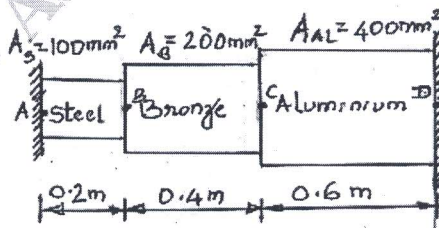

Fig. Q4 (b)
- b. A stepped bar with it's both ends fixed as shown in Fig. Q4 (b) is subjected to an increase in temperature of 50°C . Determine displacements and forces at points A, B, C and D. Take Young's moduli of steel, bronze and aluminium as $E_s = 200 \text{ GPa}$, $E_B = 83 \text{ GPa}$ and $E_{AL} = 70 \text{ GPa}$ respectively. The coefficients of thermal expansions are $\alpha_s = 12 \times 10^{-6} / ^\circ\text{C}$, $\alpha_B = 19 \times 10^{-6} / ^\circ\text{C}$ and $\alpha_{AL} = 22 \times 10^{-6} / ^\circ\text{C}$. (14 Marks)